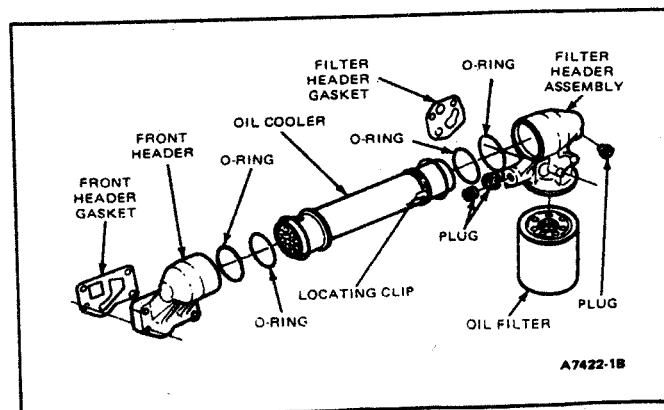

FIG. 103 Oil Cooler
1. Gently rap front and oil filter headers to loosen O-rings. Twist oil cooler apart (Fig. 103).